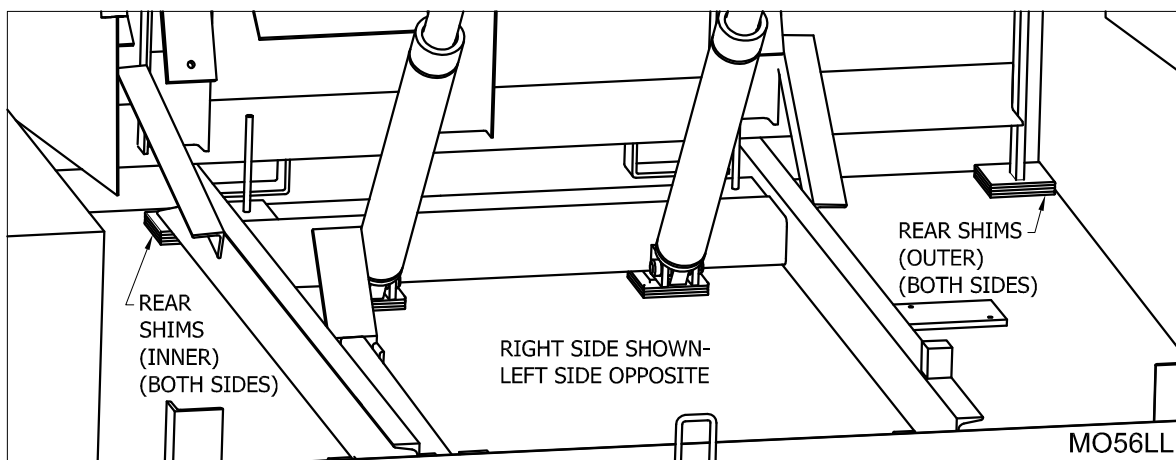

Figure 33: Rear Shims
3. ___ Rear shims (Left and Right side). (See "Figure 33: Rear Shims" on page 28)